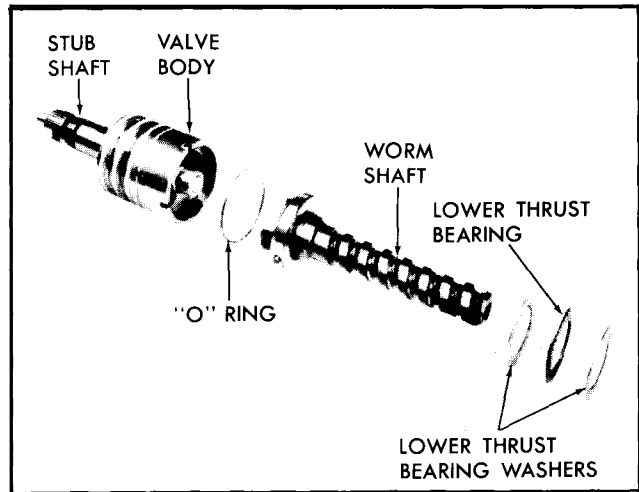

Figure 49—Worm and Valve Body
1. Lubricate the worm, lower thrust bearing and the two thrust washers with Power Steering Fluid, then install one thrust washer, the bearing, and the other thrust washer over the end of the worm (figure 49).